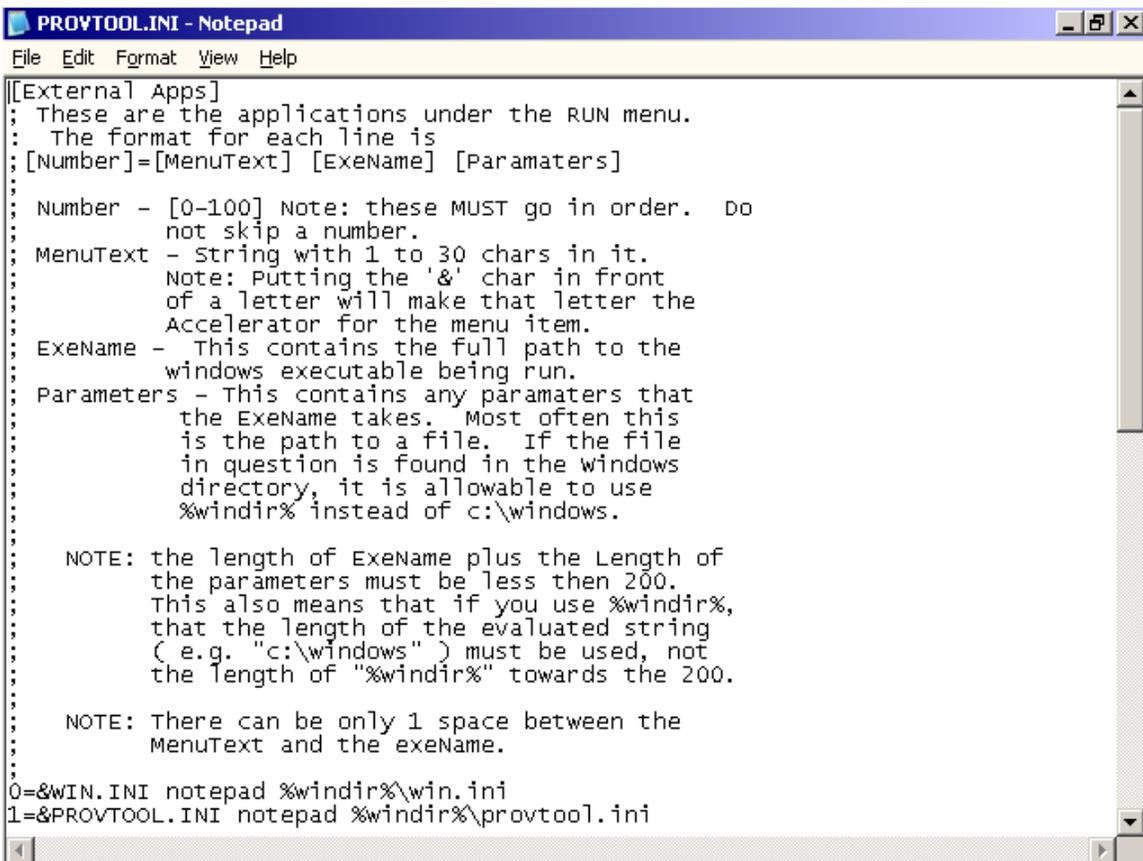

FIGURE 54. Edit window for PROVTOOL.INI file
2. Select PROVTOOL.INI. (See Figure 54.)